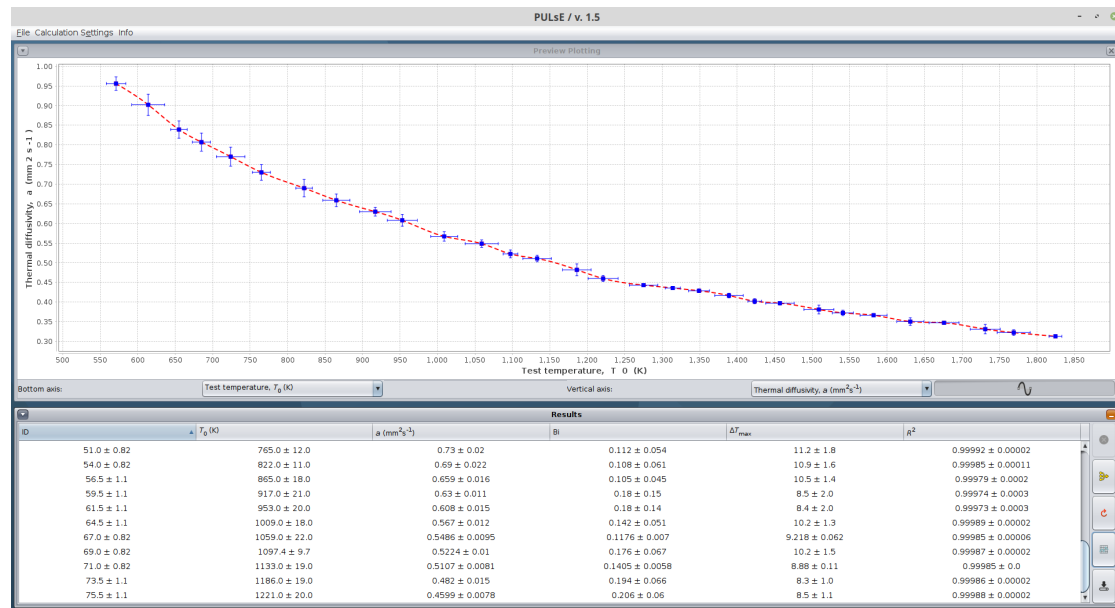

Figure 11: Preview mode.
- “Preview” allows you to plot the results on a chart. Clicking it brings up the preview mode, which includes a large chart panel on top with the results plotted against user-selected axes and the results table in the bottom. Chart axes are selected by clicking the combo boxes. Any column of the results table can be selected as an axis. Clicking the “Preview” button will update the chart, e.g. after merging or removing specific results (Fig. 11). The graph can be saved as a .png image, but the users are recommended to use the results table to produce cleaner graphs. Along with the axis selection, the preview panel has a toggle button enabling spline fitting of data. This can be turned off or on (on by default);